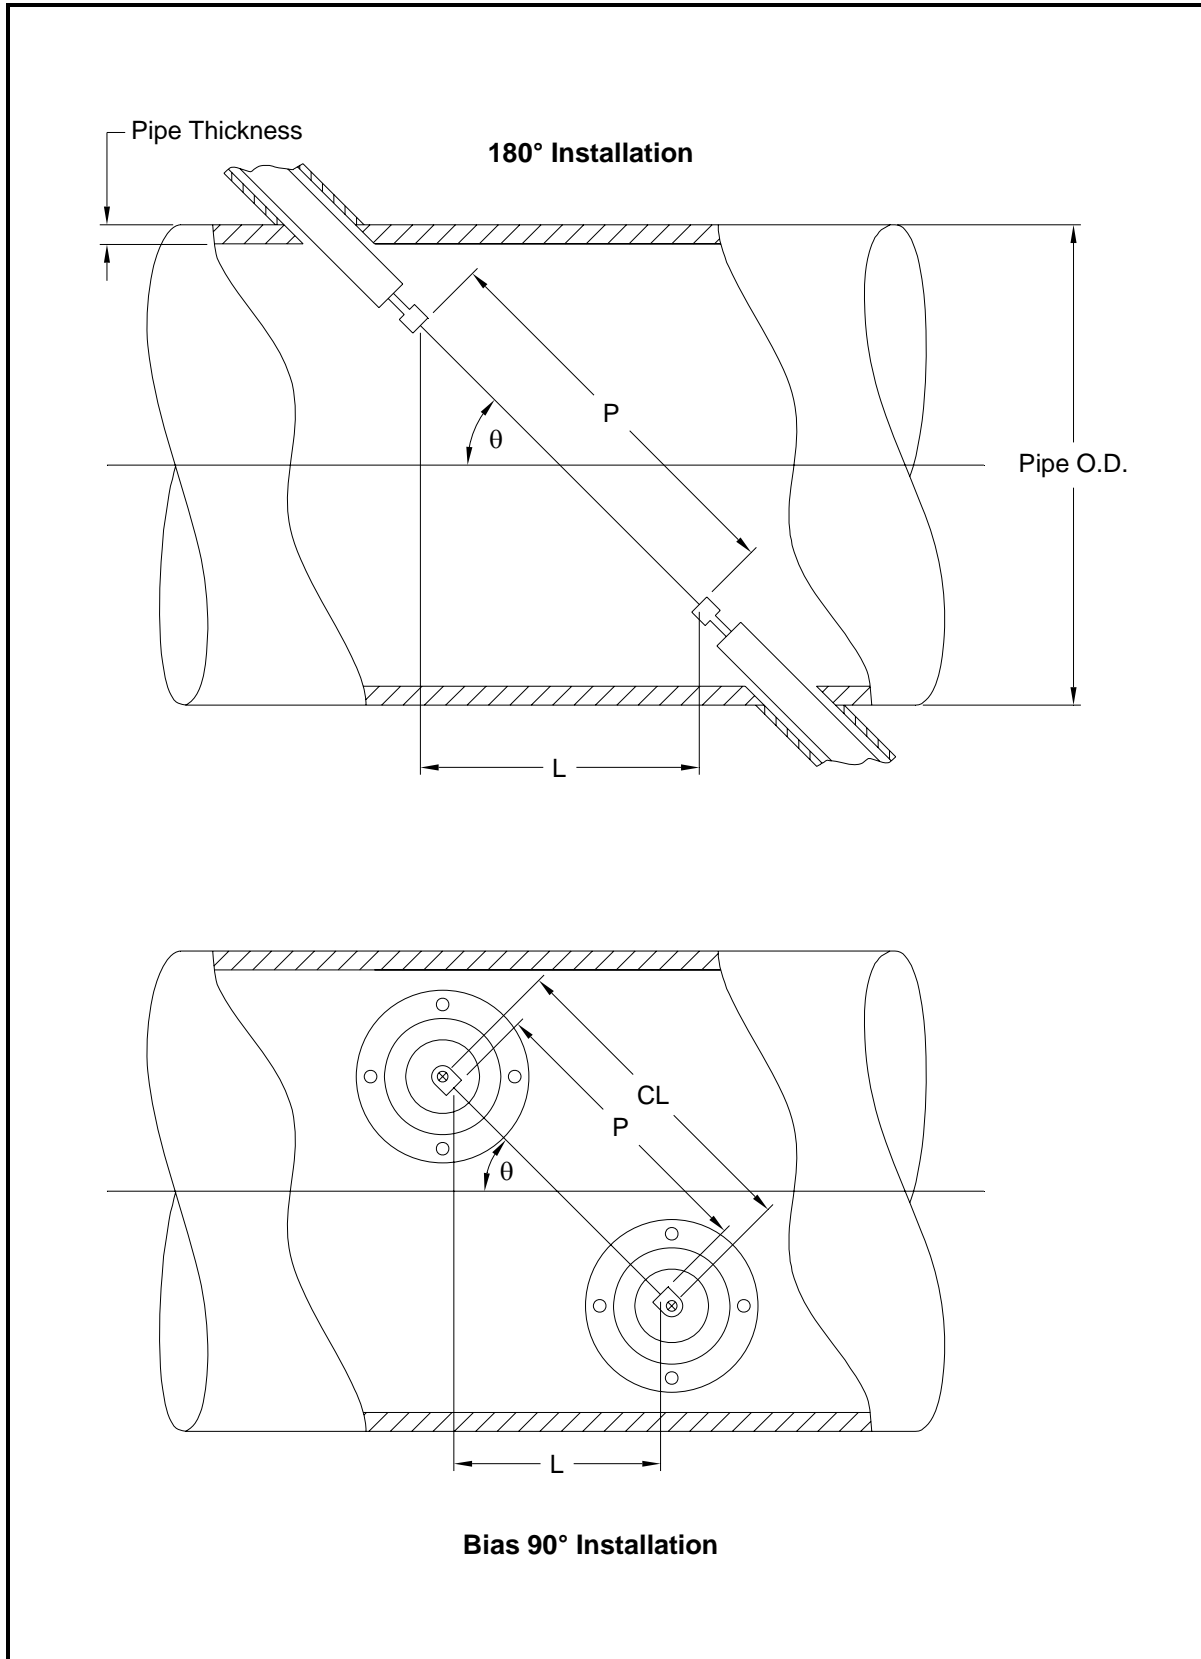

Figure D-4: Top View of Transducer Installations
The accuracy of the programmed P and L values is critical to precise flow rate measurements. If GE supplies the flowcell for the system, the correct values will be included in the documentation supplied with the unit. For transducers installed on an existing pipe (see Figure D-4 on page D-2), P and L must be measured at the site. This appendix provides instructions for properly determining these dimensions.
Whenever possible, physically measure the face-to-face distance (P) and the axial distance (L) between the centers of the flat faces of the transducers. Refer to Figure D-4 on page D-2 for an illustration of the proper distances to measure in a typical installation.
With a Bias  $90^\circ$  transducer installation, it sometimes happens that the only known parameters are the transducer angle ( $\theta$ ) and the centerline distance between the transducer bodies (CL). In these cases, it is still possible to calculate both P and L by combining Equation D-1 above with additional Equation D-2 below (see Figure D-4 on page D-2):